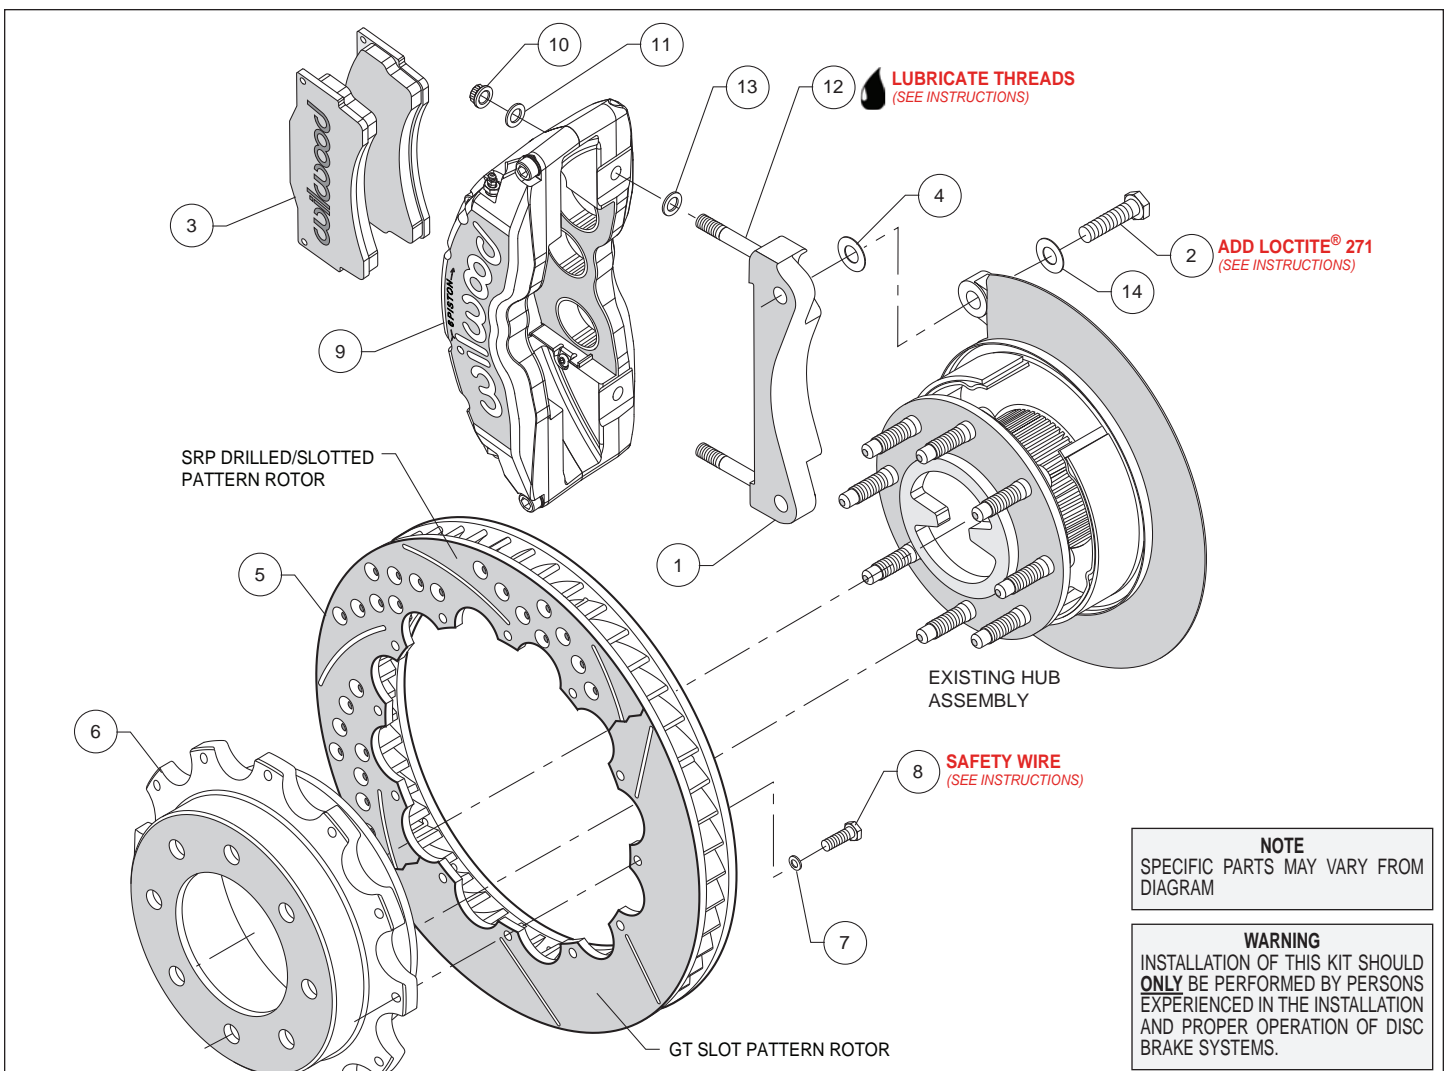
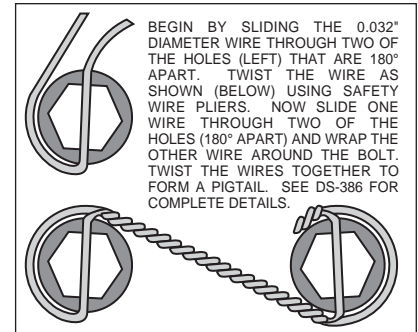

Figure 1. Typical Installation Configuration
Figure 3. Safety Wire Diagram
- The caliper mount bracket assembly (1) should be installed first with clean, dry threads on the mounting bolts (2). Install the bracket by sliding bolt (2) through washer (14) from the rear side of the hub through the OEM caliper mounting bracket ears, then through an additional shim washer (4) and into the bracket (1). The bracket must tighten squarely against the outboard side of the caliper mount bosses on the upright. Inspect for interference from casting irregularities, machining ridges, burrs, etc. Use one shim (4) between the bracket and upright during initial trial fitting. Later, after the caliper, pad, and rotor alignment have been checked, and any necessary shims have been put in place, the mounting bolt threads (2) should be coated with red *Loctite*® 271 and torqued to 95 ft-lbs.
- Attach the rotor (5) to the hat (6) using bolts (8) and washers (7) as shown in Figure 1. Using an alternating sequence, torque bolts- to 25 ft-lb. Bolts must be safety wired using standard 0.032 inch diameter stainless steel safety wire as shown in Figure 3. Please refer to Wilwood's data sheet DS-386 (available at www.wilwood.com/Pdf/DataSheets/ds386.pdf) for complete safety wire installation instructions.